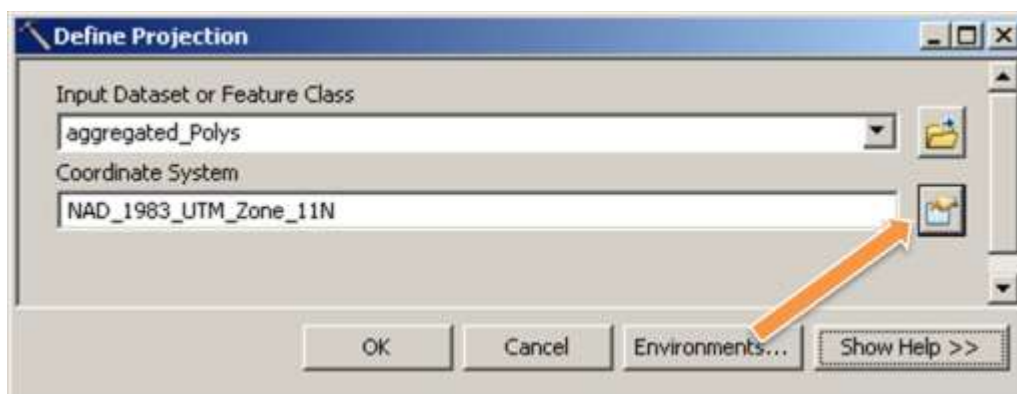
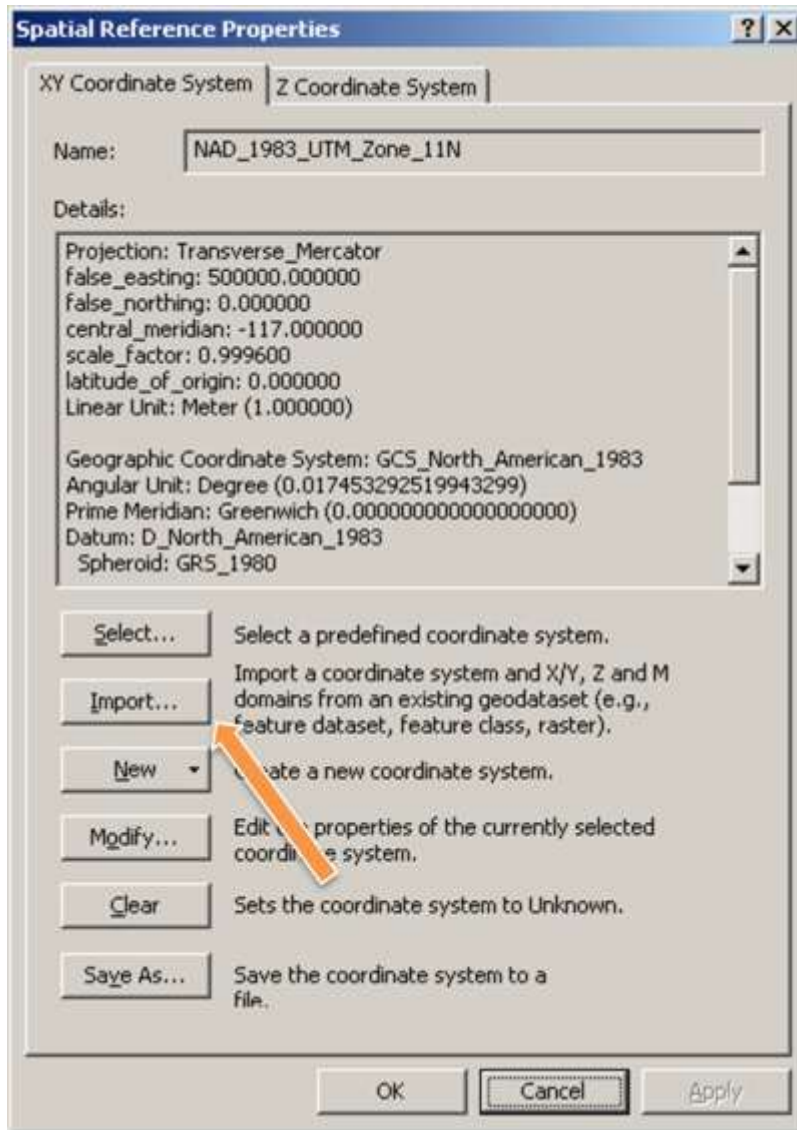

Figure 5-14—Define Projection form.
Figure 5-15—Spatial Reference Properties form.
- Define the spatial reference (**ArcToolbox**→**Data Management Tools**→**Projections and Transformations**→**Define Projection**, fig. 5-14).
- a) Click the hand pointing to the paper button (see fig. 5-14) to open the **Spatial Reference Properties** form (fig. 5-15).